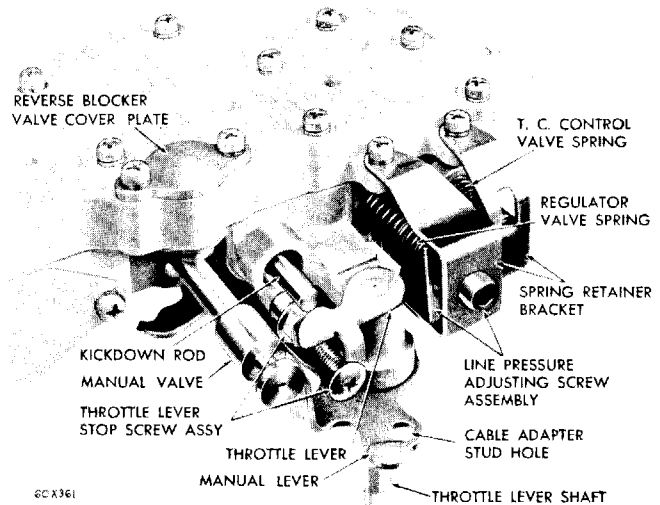

Fig. 33—Spring Bracket, Springs, Regulator Valve, and Converter Control Valve (Assembled View)
(2) While holding the spring retainer bracket firmly against the spring force, remove the three bracket retaining screws (Fig. 33).
(3) Remove spring bracket, torque converter control valve spring, and the regulator valve spring with line pressure adjusting screw assembly. **NOTE: Do not alter the setting of the line pressure adjusting screw and nut. The nut has an interference thread and does not turn easily on the screw.**
(4) Slide regulator valve and spring retainer ring out of the valve body. Slide torque converter control valve out of the valve body.
(16) Install spring retainer bracket, making sure converter valve spring is engaged on tang in the bracket. Tighten the three bracket retaining screws to 25 inch-pounds torque (Fig. 33).
(17) Install oil strainer and tighten the three retaining screws to 25 inch-pounds torque.